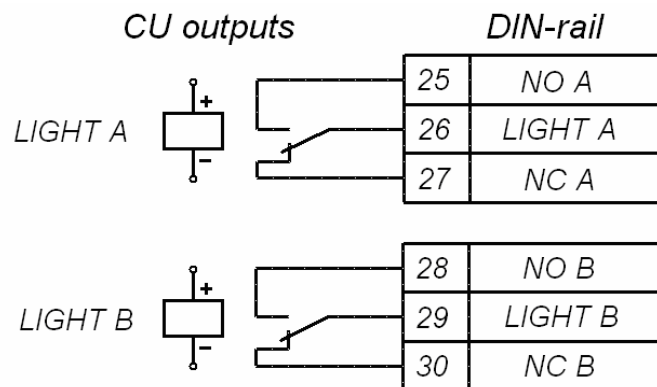

Fig. 10 Output stages for "Light A" and "Light B"
5.4.4 Remote light indicators can be connected to the DIN-rail connectors 25...30. The "Green Arrow" on the LED display, corresponding to the set passage direction, indicates that the "Light A" ("Light B") relay is activated (voltage on the relay coil). The "Red Cross" indicates that it is inactivated (no voltage on the relay coil). Output stages for "Light A" and "Light B" are brake-make relay contacts (Fig. 10) with the following signal characteristics: